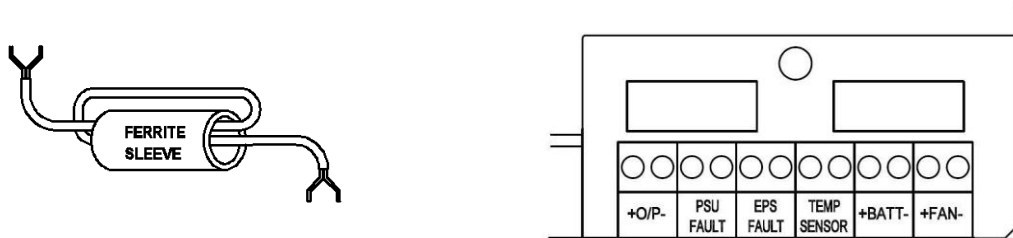

Figure 1 - Ferrite EMC suppressor
- 5) Loop the load (output) wiring through the supplied ferrite EMC suppressor as shown in Figure. 1. Cable tie to saddle provided (adjacent to exit hole).